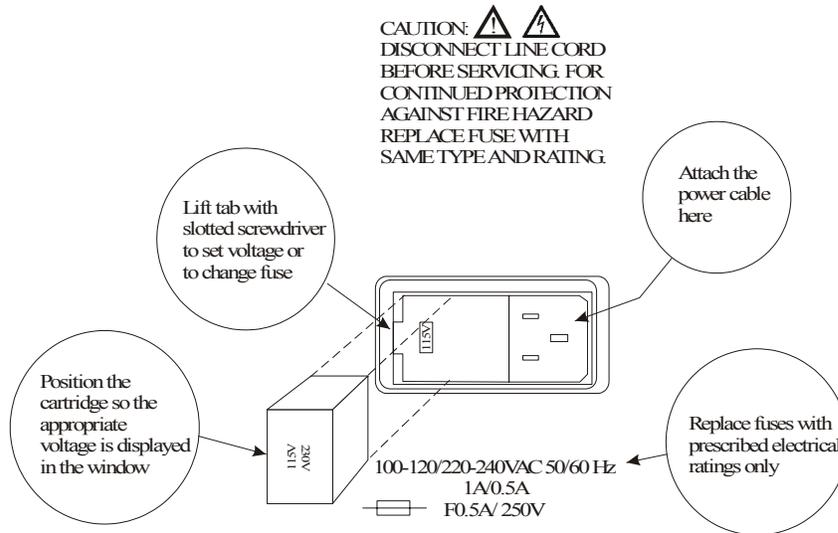

Figure 2. Checking the voltage configuration on your instrument. To operate the SC-5500 on 230VAC, two fuses are required.
To check the voltage configuration of your instrument examine the text in the display window of the input module as shown in Figure 2. The text display visible in the window should read either 115V or 230V, depending on your power source. If the voltage setting does not agree with the power source you intend to use, proceed as follows to change the voltage configuration:
3. Flip the cartridge around so that the desired voltage text reading, either 115 or 230 VAC, is oriented in the manner shown in Figure 2.